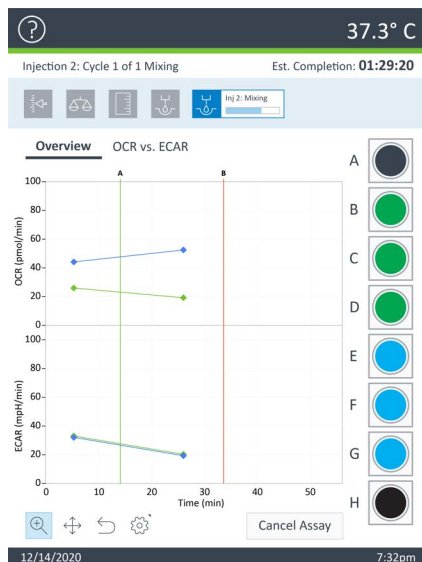

Figure 9. Overview tab.
- Click either the **Overview** or **OCR vs. ECAR** tab to toggle between the views during the assay. See **Figure 9** on page 22. Overview and OCR versus ECAR are the two run-time views available as data is acquired by the XF HS Mini Analyzer.
The **Overview** tab displays both OCR and ECAR as a function of time. Red vertical lines indicate the injections and are labeled by injection port letter. See **Figure 9**.